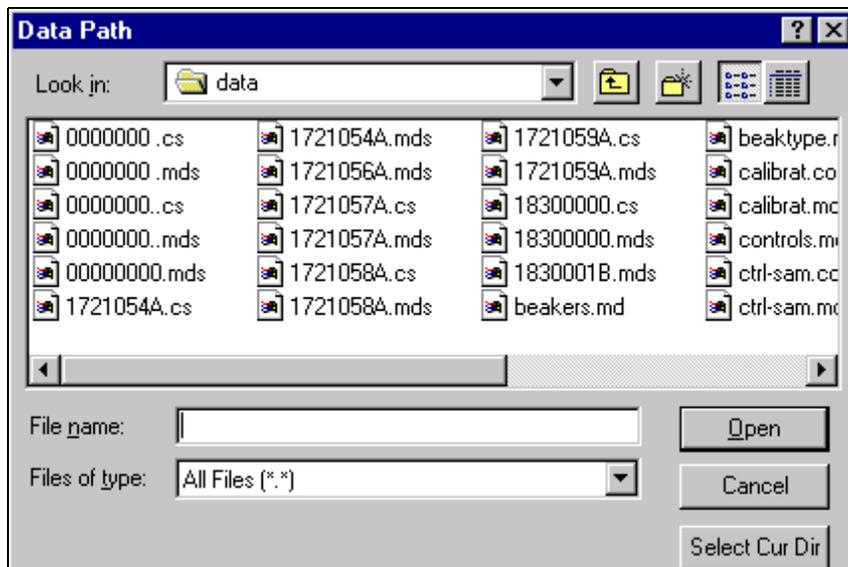

Figure 3. Set data path here.
| Figure 3. Set data path here. | 3 |
2. If you already know the data path, type it into the "Data Path" field. If not, click on the **List** button. This opens a navigational dialog box (see Figure 3).